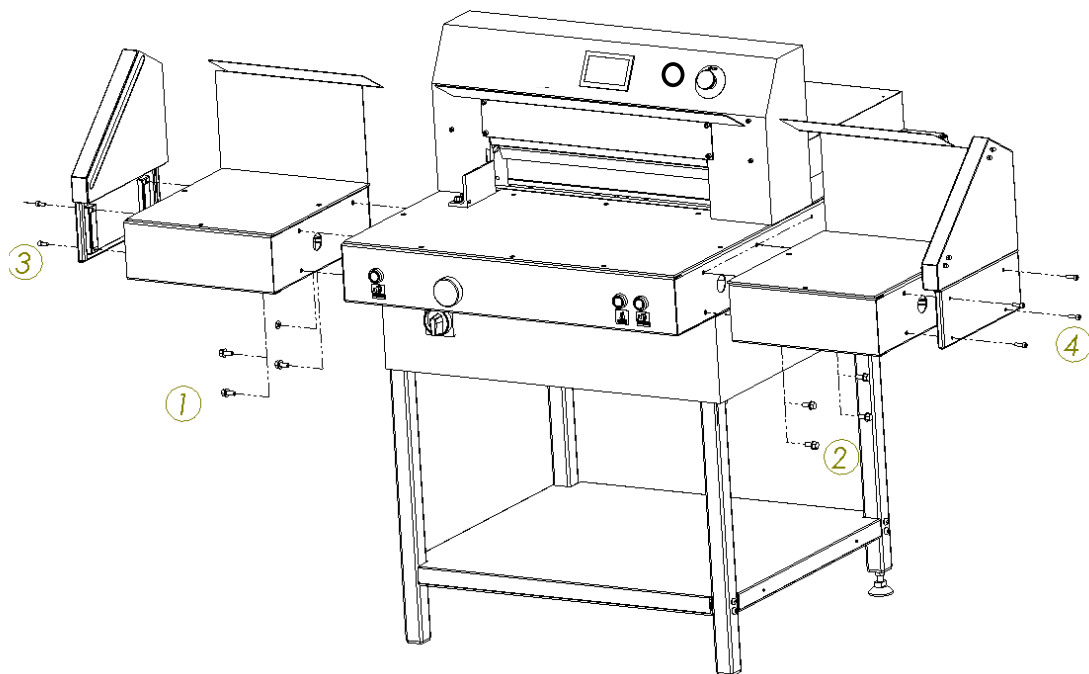

Figure 6b. Tightening of the side tables
- with disassembled side tables, assembly of tables according to Figure 6b.
- with unfolded base and disassembled side tables, (non-standard equipment), assembly according to figures 6b and 6c